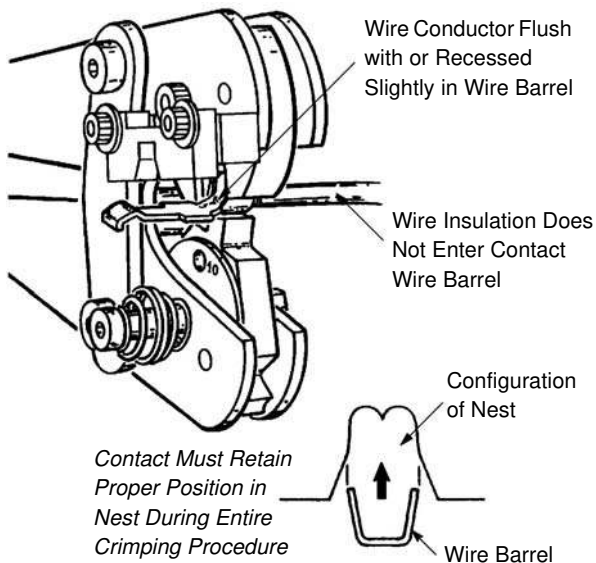

Figure 3
2. Place a sample contact in the nest of the stationary die as shown in Figure 3. The open end of the wire barrel must be aligned in the nest.
3. Loosen the two screws securing the hold-down device and contact locator, and position the contact locator over the contact tongue as shown in Figure 3. Do not re-tighten the screws at this time.
4. Slowly close the tool head, making sure the contact remains properly positioned in the nest. If the contact is cocked or otherwise out of line, realign it before proceeding. The contact should remain in the nest as shown in Figure 3. **DO NOT** deform the wire barrel.